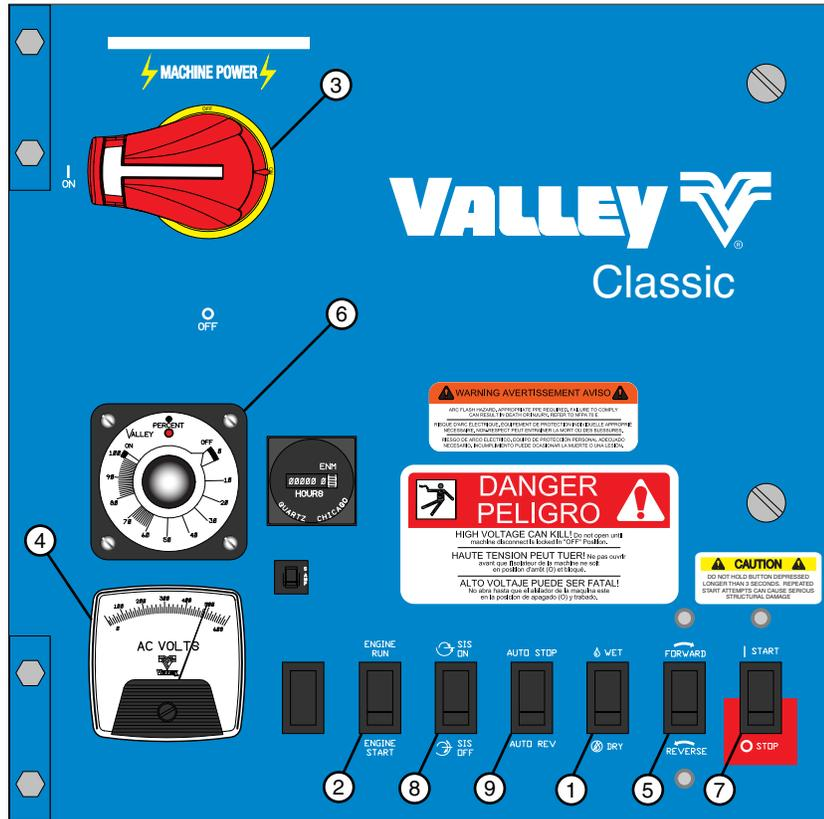

Figure 28-1
2. Place the WET/DRY switch in the DRY position to by-pass the low pressure switch. See Figure 28-1.
3. If an optional engine shut-down circuit is utilized, place the Engine RUN/START switch in the START position. See Figure 28-1.
5. Turn the control panel main disconnect switch to the ON position. See Figure 28-1.
If the power is supplied by an engine driven generator, adjust the RPM of the generator until the voltmeter reads 460 – 505 volts. DO NOT EXCEED 505 VOLTS. See Figure 28-1.
6. Place the FORWARD/REVERSE switch in either the FORWARD or REVERSE position. See Figure 28-1.
7. Set the percent timer to the desired speed setting. See Figure 28-1.
8. Press and hold the START/STOP switch in the START position for 3 seconds and release. The machine should start. See Figure 28-1.
9. Place the Engine RUN/START switch in the RUN position. See Figure 28-1.
10. If the machine is equipped with the optional stop-in-slot mechanism, place the SIS ON/OFF switch in the desired position. See Figure 28-1.
11. If the machine is equipped with auto reverse/auto stop, place the AUTO REVERSE/AUTO STOP switch in the desired position. See Figure 28-1.
12. If the machine is equipped with the optional Auxiliary ON/OFF switch to control an operation or device, place the Auxiliary ON/OFF switch in the desired position. See Figure 28-1.